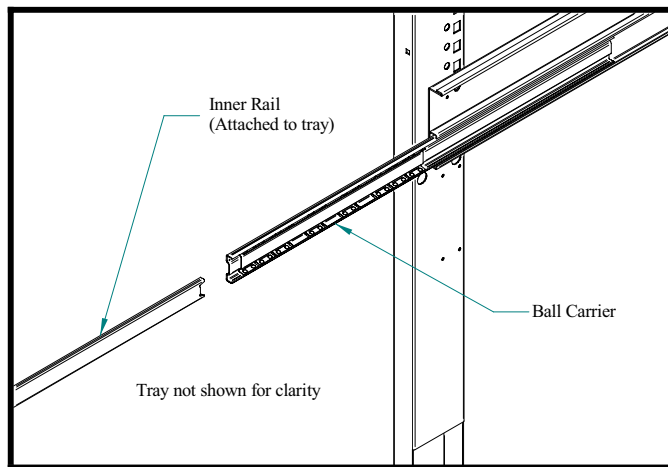

Figure 5.1 Bottle Tray Rails
2. Move the ball carriers out to the ends of the slide rails (refer to Figure 5.1) and hold in position.